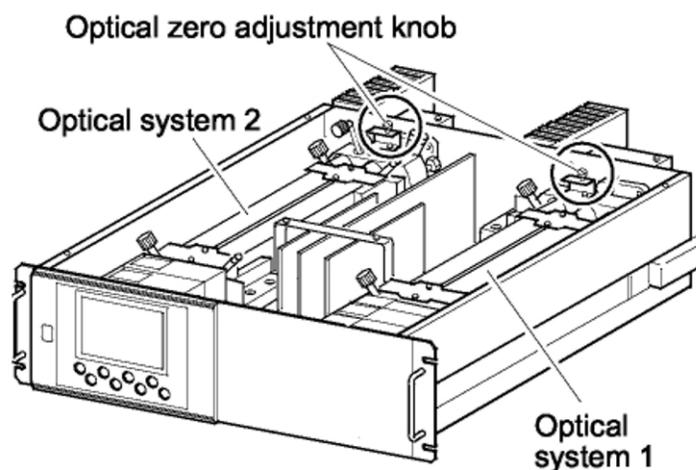

Figure 4-8: Optical Zero Adjustment
6. Operate the optical zero adjustment knob to change the value displayed at (a) or (e). See Figure 4-8